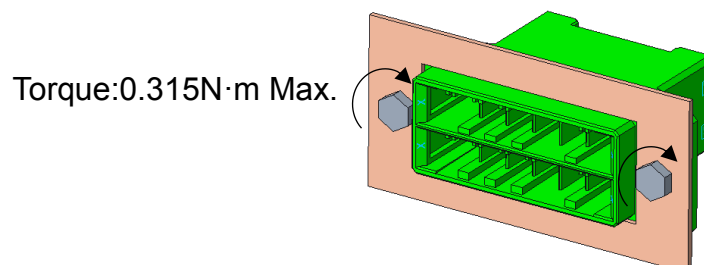

Figure 4
- III. Fasten the screw with Torque 0.315N·m Max. as shown Figure 4.